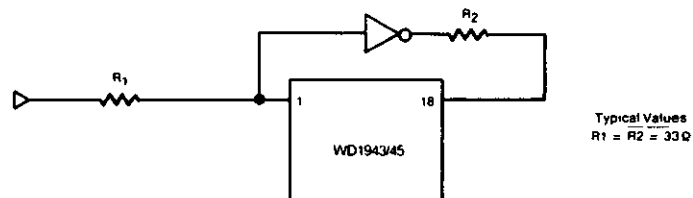

Figure 3. SERIES RESISTOR TO MATCH IMPEDANCE
1. Add a series resistor to match impedance as shown in Figure 3.